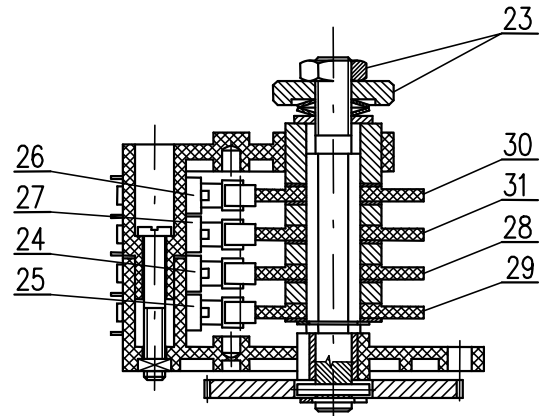

Fig. 3
4.2 Adjustment of position-indicating unit (Fig.3)
The EA are in the production plant adjusted to a fixed angle (according to the specification), given on the nameplate. While setting, adjusting and resetting follow these steps (Fig. 3):